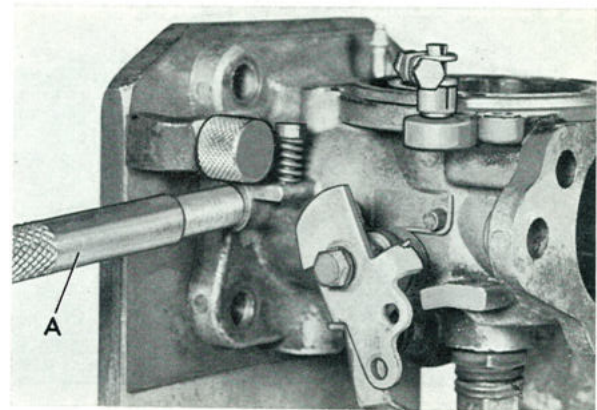

Fig. 2-108. Pressing in the bush
4. After completing the reaming, turn the stand pin 90° so that it forms a stop inside the carburetor housing for the bushes. Then drive in the bushes with drift SVO 2402, see Fig. 2-108.